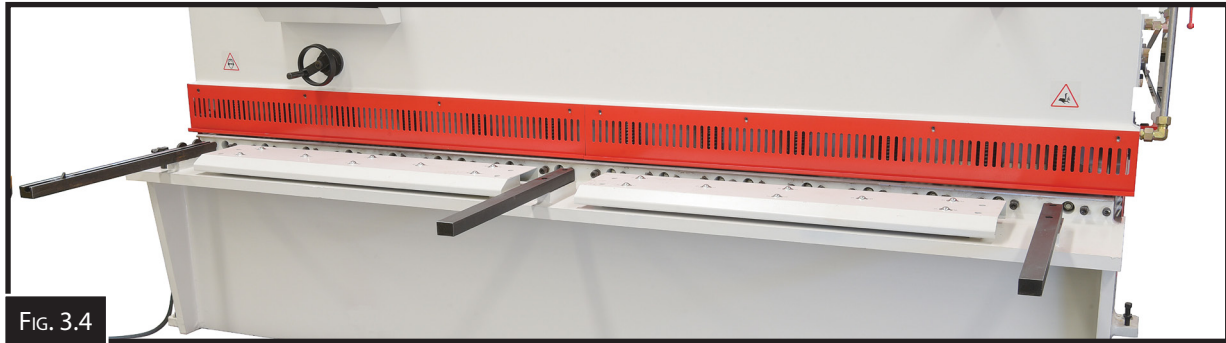

FIG. 3.4
- Bolt the support arms onto the feed table. Ensure they are level and square to the table. (Fig 3.4)